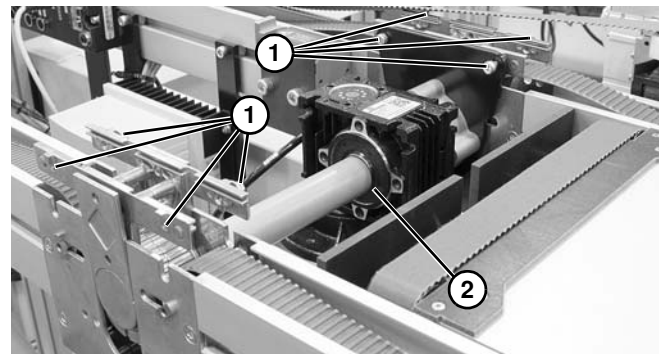

Figure 24
5. Loosen inner and outer screws (Figure 24, item 1). While pressing in on hex flange screws, lift mid drive assembly (Figure 24, item 2) from conveyors.